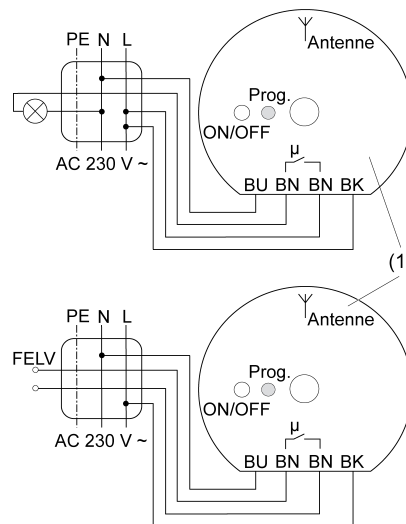

Figure 3
- Connect the Switch/push-button actuator (1) to lamp terminals according to connection diagram (Figure 3) (see Using the lamp terminals).